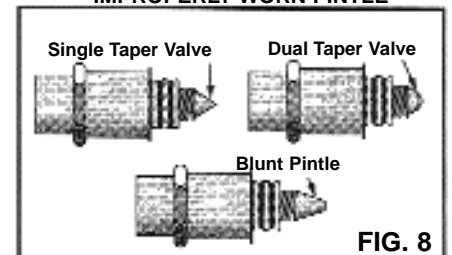

FIG. 8
2. Compare old and new IAC motor to ensure correct replacement. Carefully compare the pintles on both, GM uses three different types that do not interchange (Fig 8).